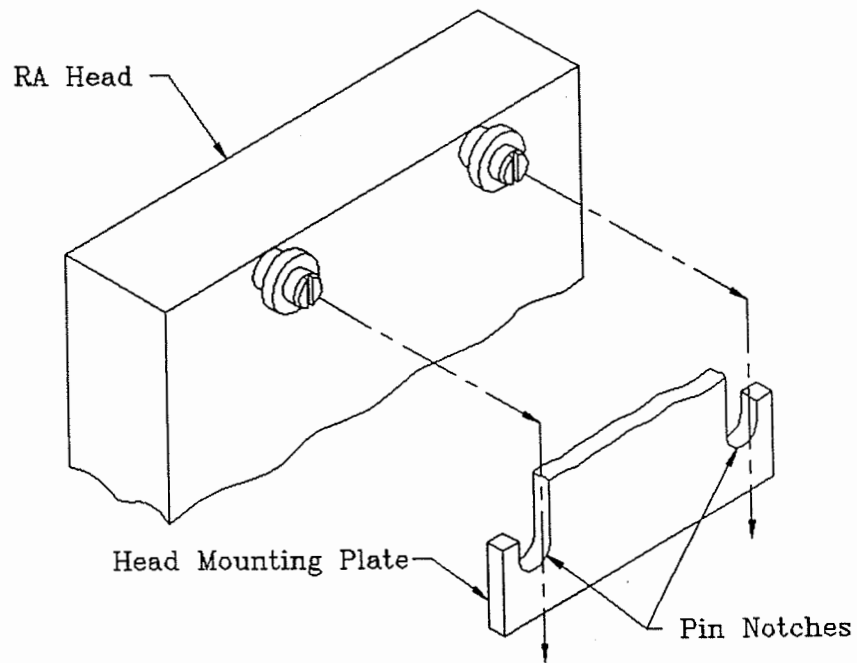

Figure 10
- D) Position the back of the analgesia head parallel with the head mounting plate. Slide the head downward until the spacers, installed in step "A", are engaged in the pin notches. (See fig 10).